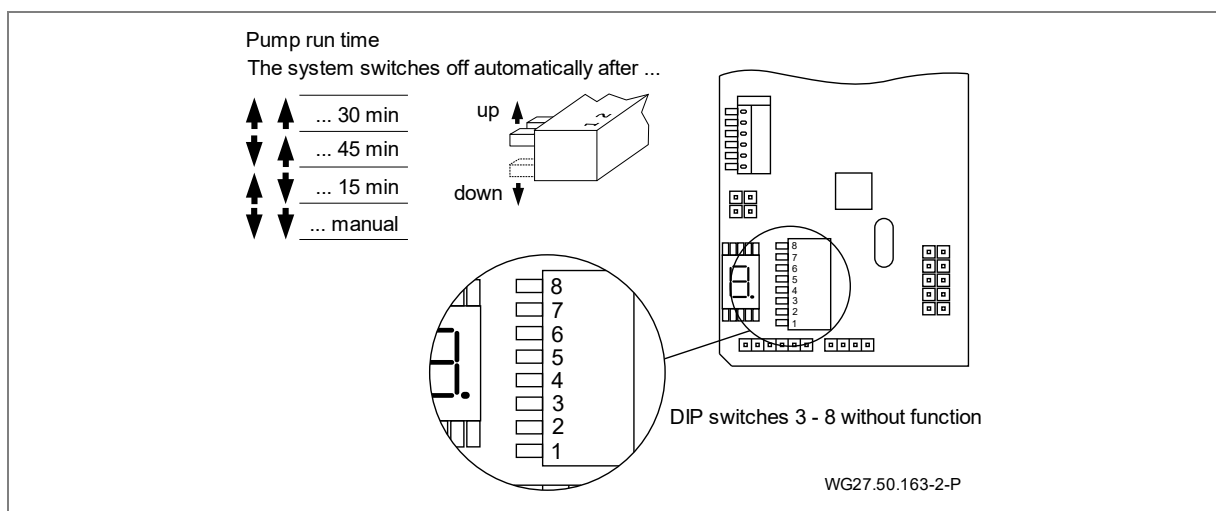

Fig. 24
3. Support the suction and pressure lines to relieve them. See "Fig. 24" on page 27.